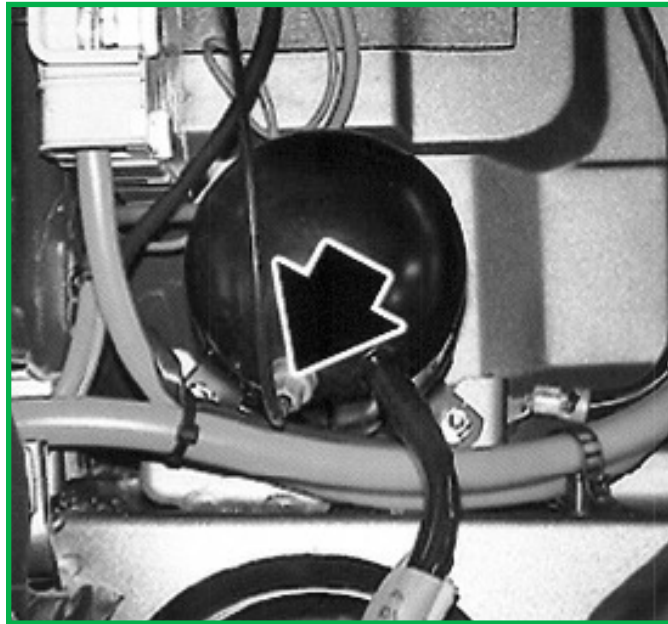

FIGURE 18
5. Carefully loosen the air fitting to deflate the air spring. (Figure 18)